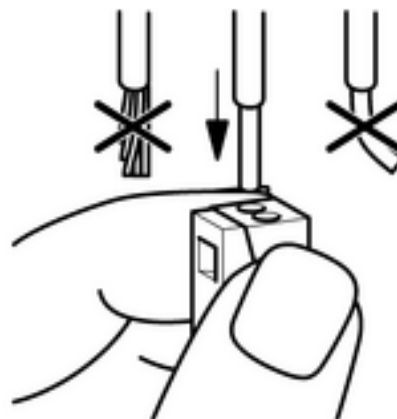

Figure 7: Connection of the single-stranded cable
- Push the single-stranded cable into the round opening on the installation side up to the stop (Figure 7).